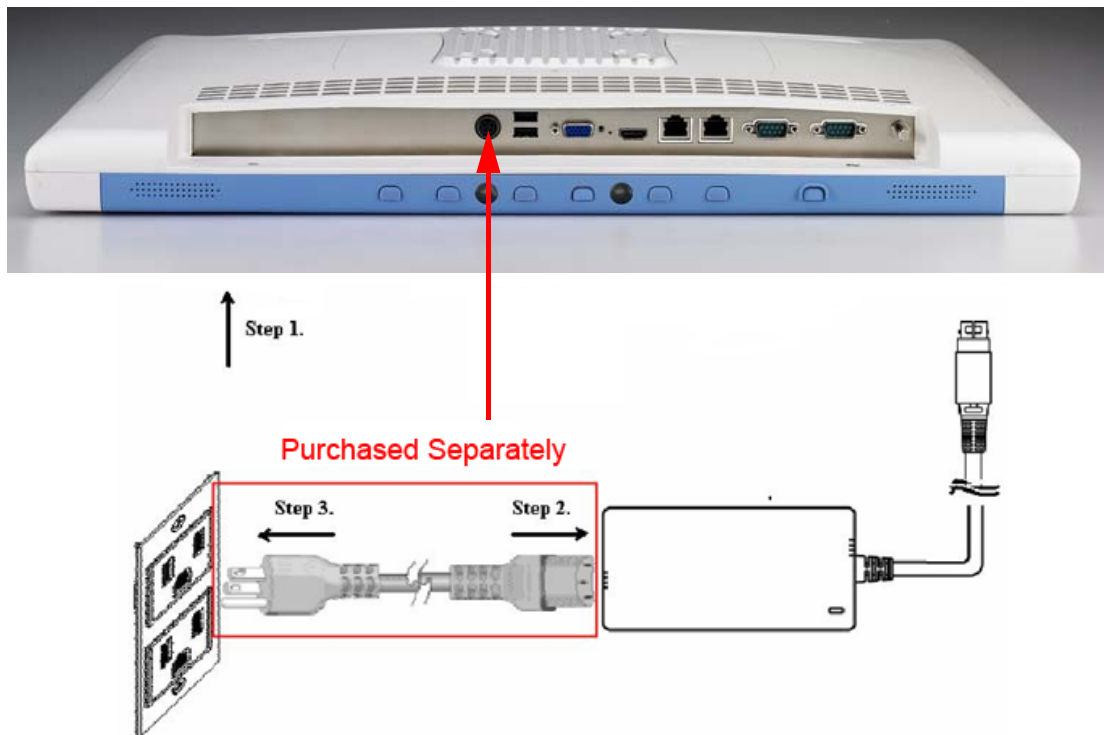

Figure 2.7 Connecting the Power Cord
1. Connect the female end of the power adapter to the DC jack of the panel PC. (See Figure 2.7.)